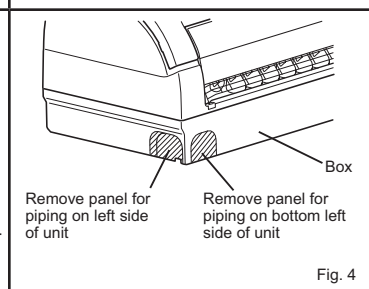
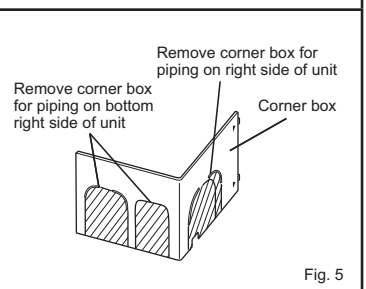

Fig. 4
Fig. 5
- According to the piping direction, remove the shaded part of the left side of box (Fig. 4) or corner box (Fig. 5). Reinstall electrical cover, corner box and front panel.
- Insert the drain hose fully into the drain pan at the back right of the indoor unit. (Fig. 4)
- Insert the drain hose into wall hole sleeve (C), and attach the upper part of indoor unit onto the installation plate (1). Then, shift the indoor unit completely to the left to make placing the piping in the back of the unit easier.
- Cut out a piece of cardboard from the shipping box, roll it up, hook it onto the back rib, and use it as a spacer to lift the indoor unit. (Fig. 5)
- Connect the refrigerant piping with the extension pipe (B).
- Attach the lower part of the indoor unit into the installation plate (1).
- 4) Flaring work (Fig. 4, 5). Firmly hold copper pipe in the dimension shown in the table. Select A inch (mm) from the table according to the tool you use.